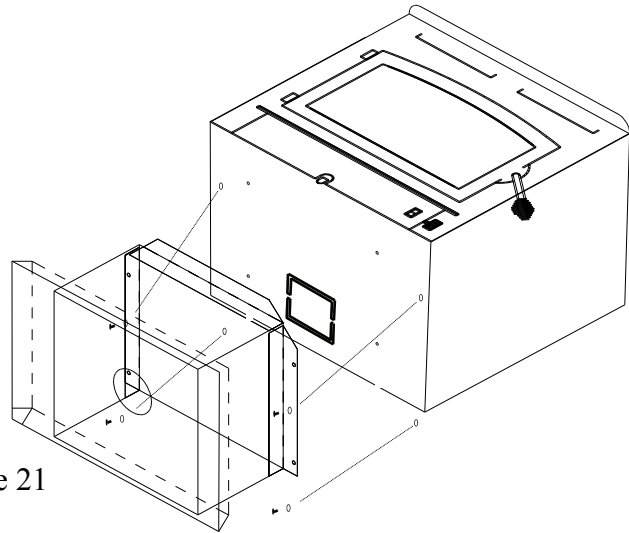

Figure 21
7. Open the corresponding freestanding kit and obtain the stand. Place the stand against the bottom of the heater (angle side to heater). Center stand front to rear, and also center the stand left and right, and mark screw locations on bottom of the stove through outer holes of stand mounting angles. Set stand aside and drill four 7/32" holes in heater bottom. Then mount stand to bottom of heater with screws provided. (See Figure 21).
8. Obtain four (4) 3/16" self-tapping screws and secure the stand to the heater.